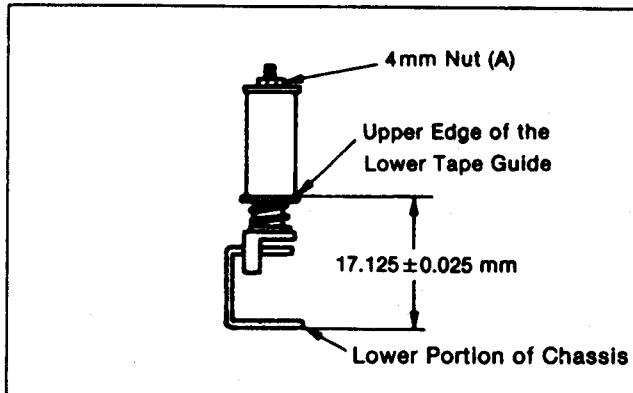

Fig. T3
- (1) For adjustment S4 Post height, turn 4mm Nut(A) Slightly in either direction as necessary to the correct clearance between the upper edge of lower tape guide on S4 Post and lower portion of Mecha chassis as shown in Fig.T3.